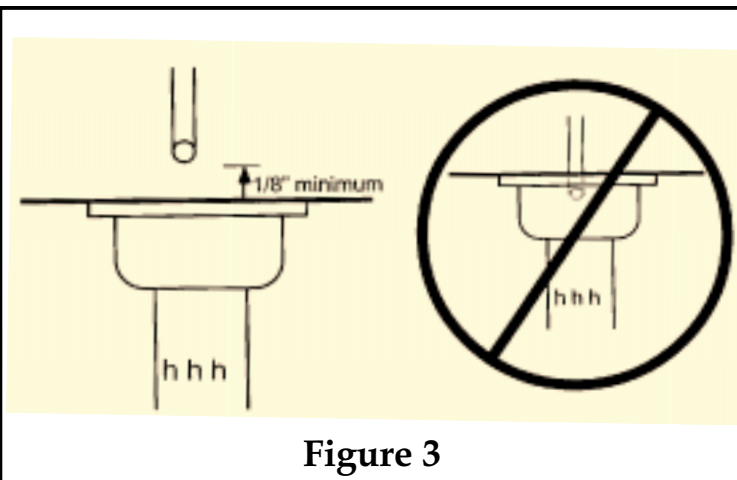

Figure 3
Do not connect the drain line directly to a waste water drain, sewer or trap. Always allow an air gap between the drain line and the wastewater to conform with local codes, and to prevent the possibility of waste water being forced back into the water distillation system. See figure 3.
- Run the drain line to the drain of your choice. Secure in place and allow an air gap between the end of the line and the drain. See figure 3.